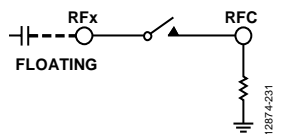

Figure 64. Series Capacitor Directly Connected to MEMS Switch
- Connecting a series capacitor directly to the switch (see Figure 64).